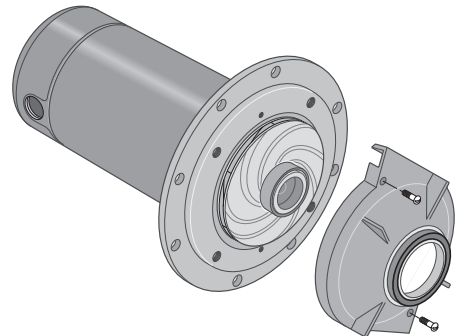

Figure 11: Remove Diffuser
4. Remove screws that fasten diffuser to the seal plate and remove diffuser (Figure 11). The exposed impeller can now be cleaned.